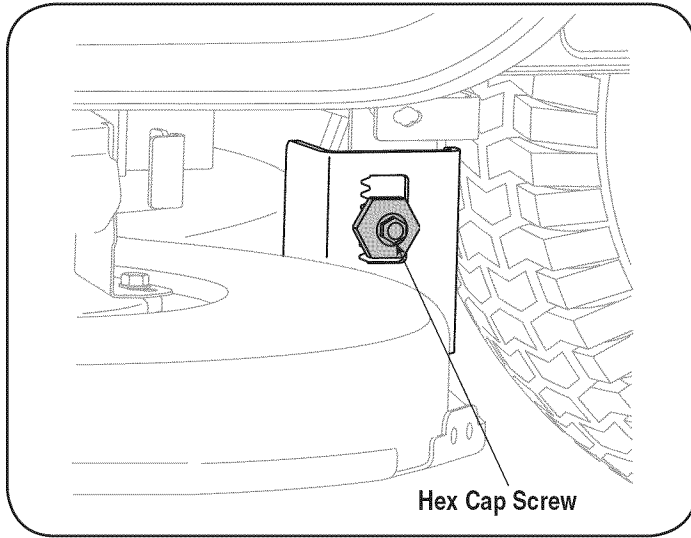

Figure 17
3. Loosen, but do NOT remove, the hex cap screw on the left deck hanger bracket. See Figure 17.